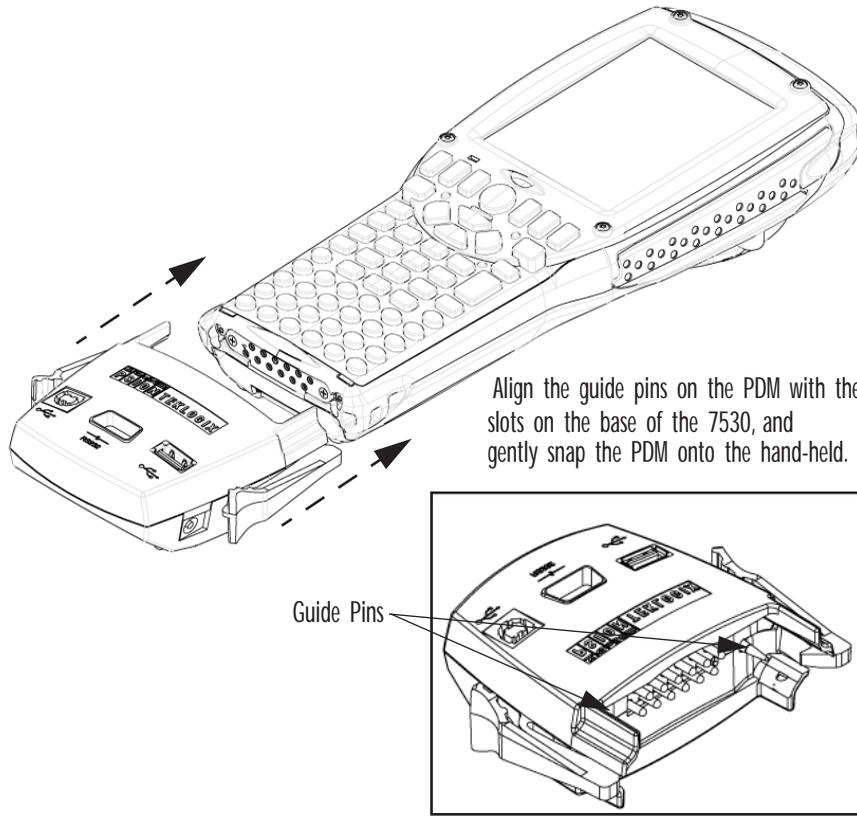

Figure 7.1 Attaching The PDM To The Base Of The 7530
- Gently snap the PDM into place on the base of the unit. Figure 7.1 on page 266 provides a visual representation of how to secure the PDM.